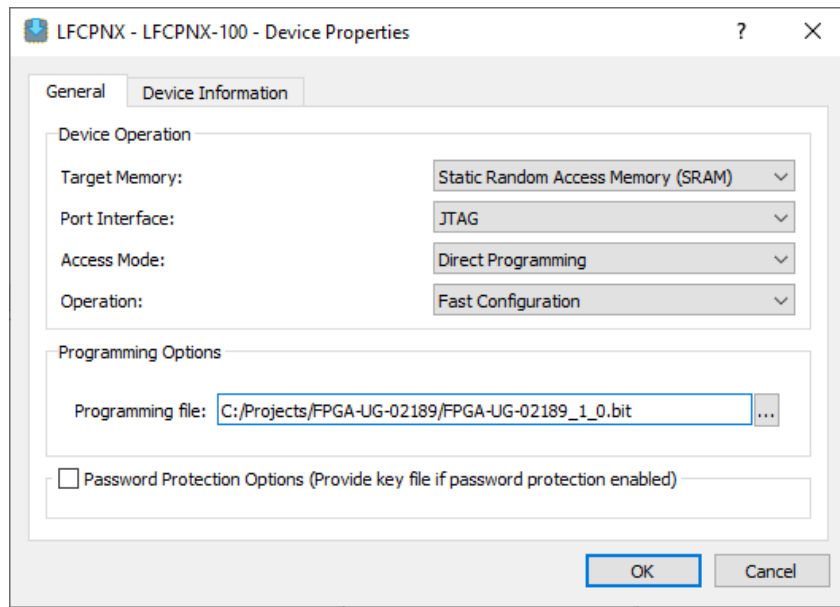

Figure A.4. Radiant Programmer – Fast Configuration Device Properties
- b. The **Device Properties** dialog box opens as shown in, Figure A.4. Select the following options: